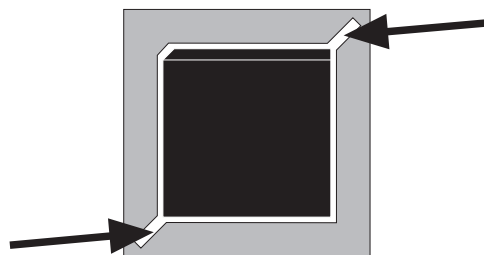

Figure 36: Location of the access holes for the extraction of the ROM.
- To extract the EPROM operate carefully. There are two access holes that make the extraction possible as indicated in figure 36.